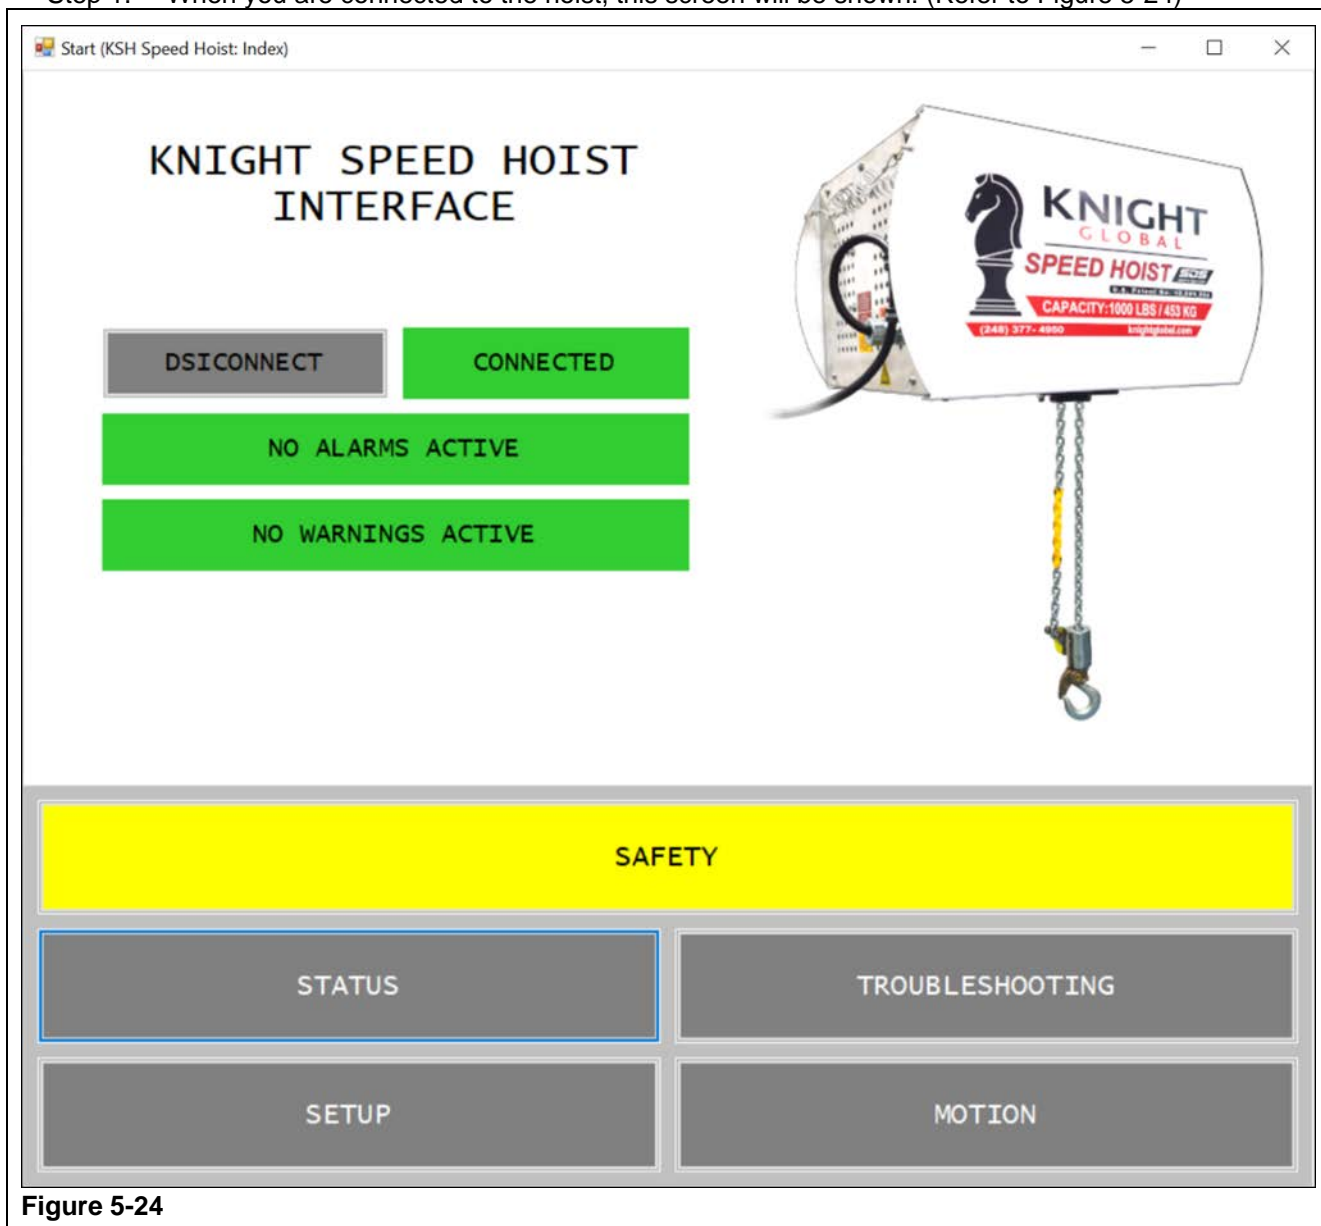

Figure 5-24
Step 1. When you are connected to the hoist, this screen will be shown: (Refer to Figure 5-24)
Start screen: (Refer to Figure 5-24)